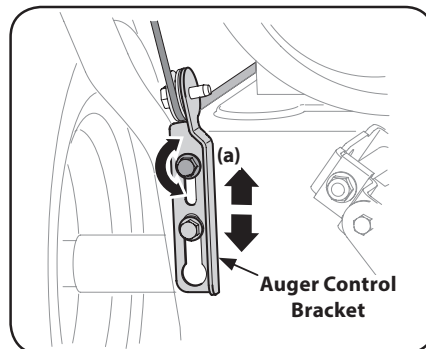

Figure 2-50
4. Allow auger to remain engaged for approximately ten (10) seconds before releasing auger control lever. Repeat this several times.
7. To readjust the auger control cable, loosen upper hex screw (a) on auger control bracket. See Figure 2-50.
8. Position bracket upward to provide more slack (or downward to increase cable tension). See Figure 2-50.